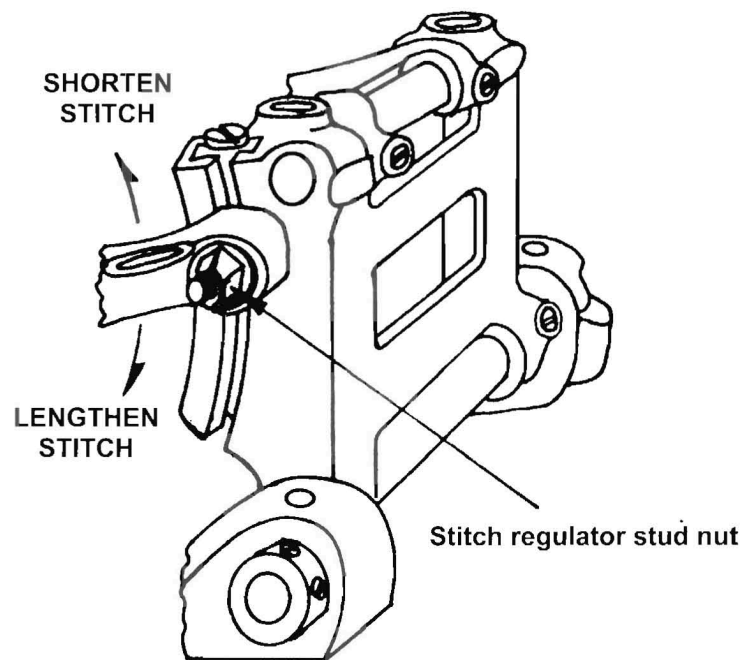

Figure 6
1. Adjust the stitch length to give the desired number of stitches per inch. This adjustment is made by loosening the stitch regulator stud nut (#HA 18 A) on the side of the feed rocker (#80233) (**Fig. 6**). Raising the feed driving arm (#80651) shortens the stitch and lowering it lengthens the stitch. After the stitch length is set, reset the rear needle guard so that it barely contacts the needle when in its most forward position of travel.